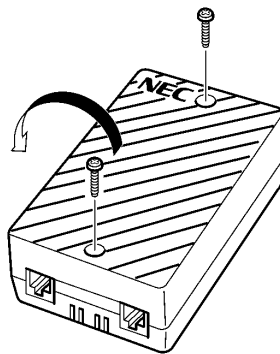

Figure 8-3: Removing the Screws from the SLT(1)-U13 ADP
1. Remove the two screws from the top to open the SLT adapter as shown in *Figure 8-3: Removing the Screws from the SLT(1)-U13 ADP* .